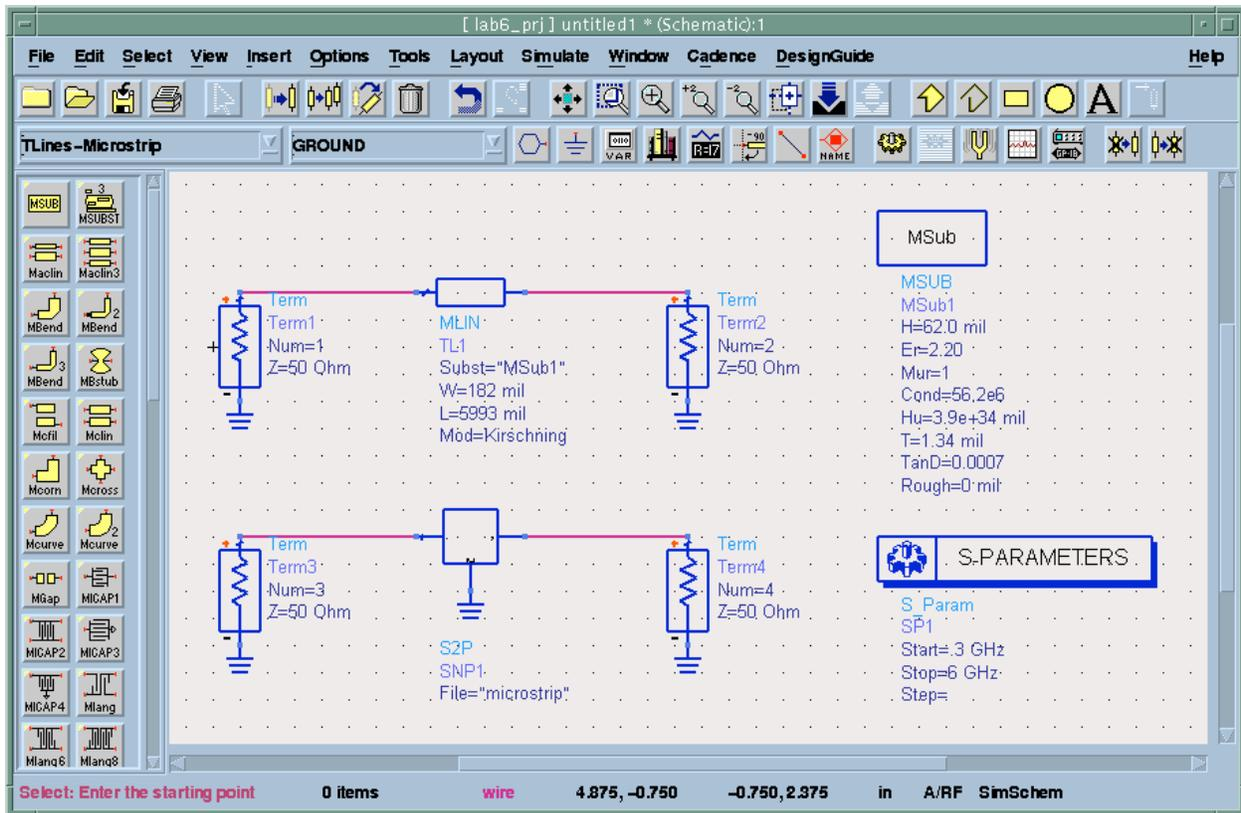

Figure 1. Schematic for transmission line model and comparison with measurement.
2.) To start modeling the microstrip line, examine the expected s-parameter results for a microstrip board. To do this, build a circuit in ADS similar to the one shown in Figure 1. The detailed steps for this process are outlined below: